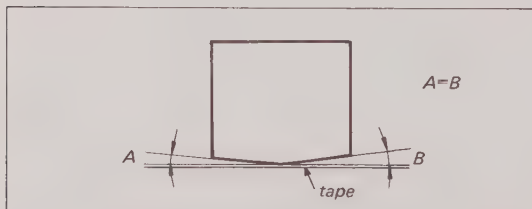

Fig. 5-9. Erase head angle adjustment
6. After completing the head height adjustment, perform angle adjustment by loosening the screw B as shown in Fig. 5-9.